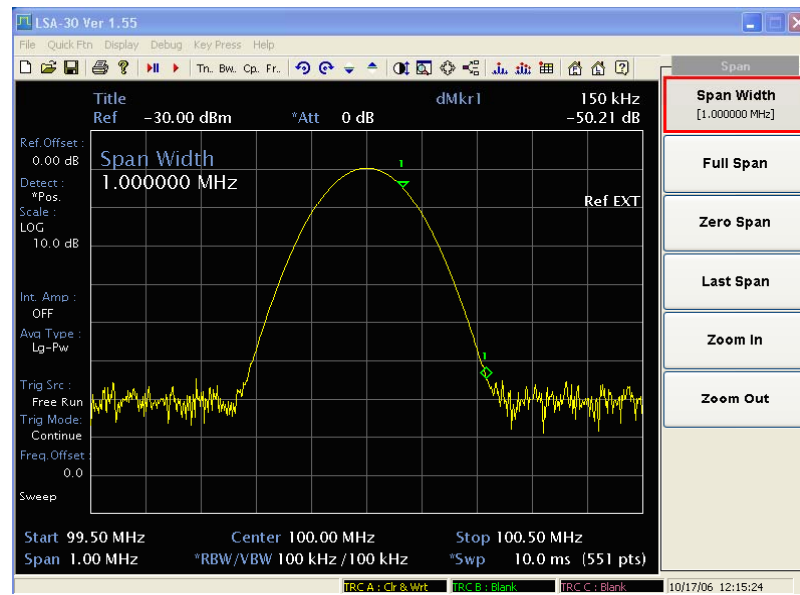

Fig. B-26 Determining the offset
- 7 Determine the offset from the signal peak to the desired point on the filter skirt by moving the delta marker to the midpoint. Press 75 kHz to move the delta marker to the midpoint. See Fig. B-26.